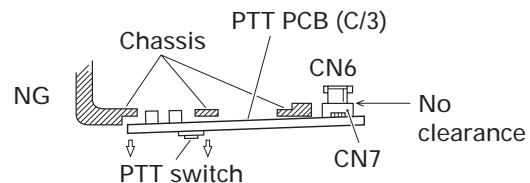

Fig. 4
- (1) Insert the PTT PCB connector (CN7) into the TX-RX PCB connector (CN6) lightly.
- (2) Push three parts of the PTT PCB to contact tightly with the chassis. There may be a small gap between the connectors. (Fig. 4)